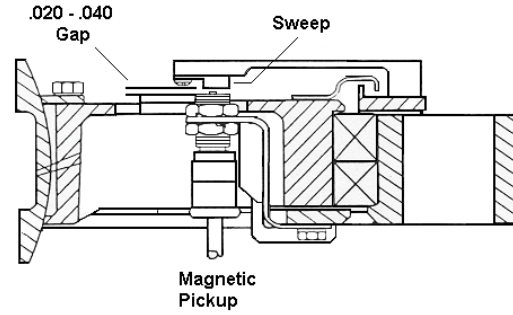

Figure 2
3. Position the Magnetic Pickup Mount on the retainer with the leg projecting up to large hole in the swashplate and secure with two bolts and washers. Torque bolts in accordance with the appropriate Sikorsky Maintenance Manual and safety wire. (See figure 2)
4. Remove the upper jam nut from the Magnetic Passive Speed Sensor (P/N 75-900-0187). Install the Speed Sensor into the mount. Loosely install the upper jam nut. (See figure 2)
5. Remove two bolts and washers from the bearing retainer on top of the rotating swashplate at the position of the Magnetic Passive Speed Sensor. Position Sweep (Sikorsky P/N 76076-55021-106) on rotating swashplate and secure with nuts and bolts. Torque bolts in accordance with the appropriate Sikorsky Maintenance Manual and safety wire. (See figure 2)
6. With the Red Blade over the nose, check that the Sweep and Speed Sensor align. Adjust the clearance between Sweep and Speed Sensor to 0.020 – 0.040". Tighten upper jam nut and safety wire. (See figure 2)